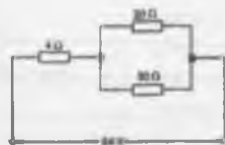

Figure 5.31
- 7 (a) Calculate the current flowing in the $30\ \Omega$ resistor shown in Fig. 5.31 (b) What additional value of resistance would have to be placed in parallel with the $20\ \Omega$ and $30\ \Omega$ resistors to change the supply current to 8 A , the supply voltage remaining constant.